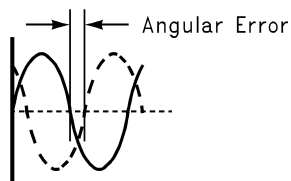

Figure 19. Angular Errors Between the Two Input Signals Will Reduce the Output Level or Cause Distortion
- dev is the angular difference in degrees between the two signals having a 180° relative phase relationship to each other (see Figure 19) (5)